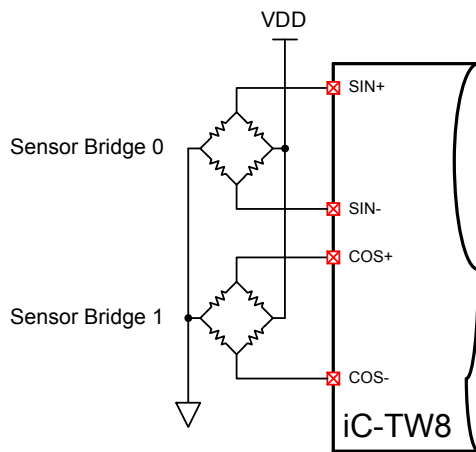
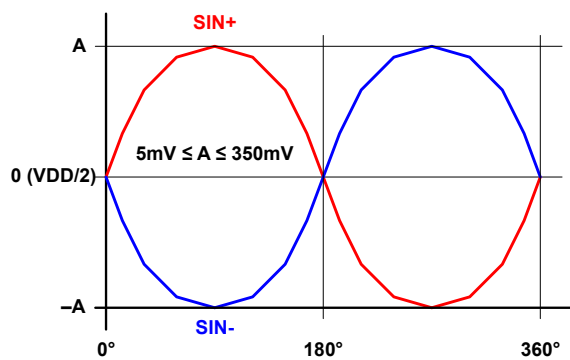

Figure 3: Differential Sensor Connection
Figure 4: Differential Sensor Signal Inputs
The iC-TW8 connects directly to magnetic (such as the iC-SM2L or iC-SM5L) or optical sensors providing differential Sin/Cos outputs as shown in Figure 3. Signal amplitude (A) from all four sensor channels must be in the range of 5 – 350mV as shown in Figure 4 for proper operation with the iC-TW8.